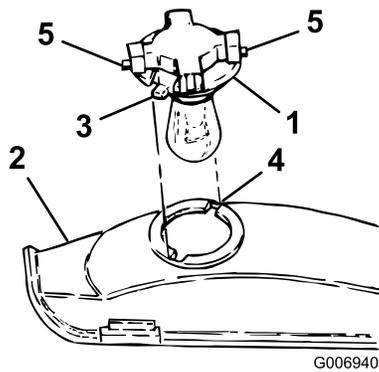

Figure 39
3. Rotate the bulb holder 1/4 turn counterclockwise and remove it from the reflector (Figure 39).
4. Align the tabs on the bulb holder (Figure 39) with the slots in the reflector, insert the bulb holder into the reflector, and rotate it 1/4 turn clockwise until it stops.